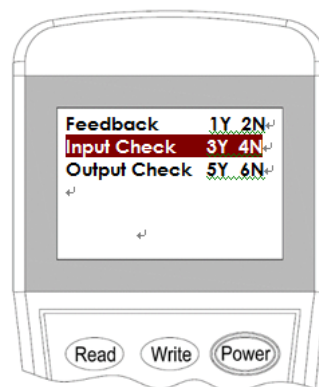

Figure 8
4. Press the **"3"** button to select the check-line mode, press the **"4"** button to select the non-check-line mode, 12 input ports unified settings, can not configure a separate input port (Figure 8).